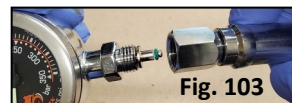
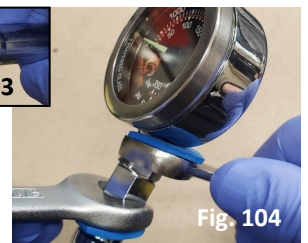

Fig. 103
Fig. 104
8. Insert the spool into the gauge end (Fig. 103), and thread the gauge onto the hose. Using two wrenches, tighten the hose nut to the gauge, hand tight (Fig. 104).